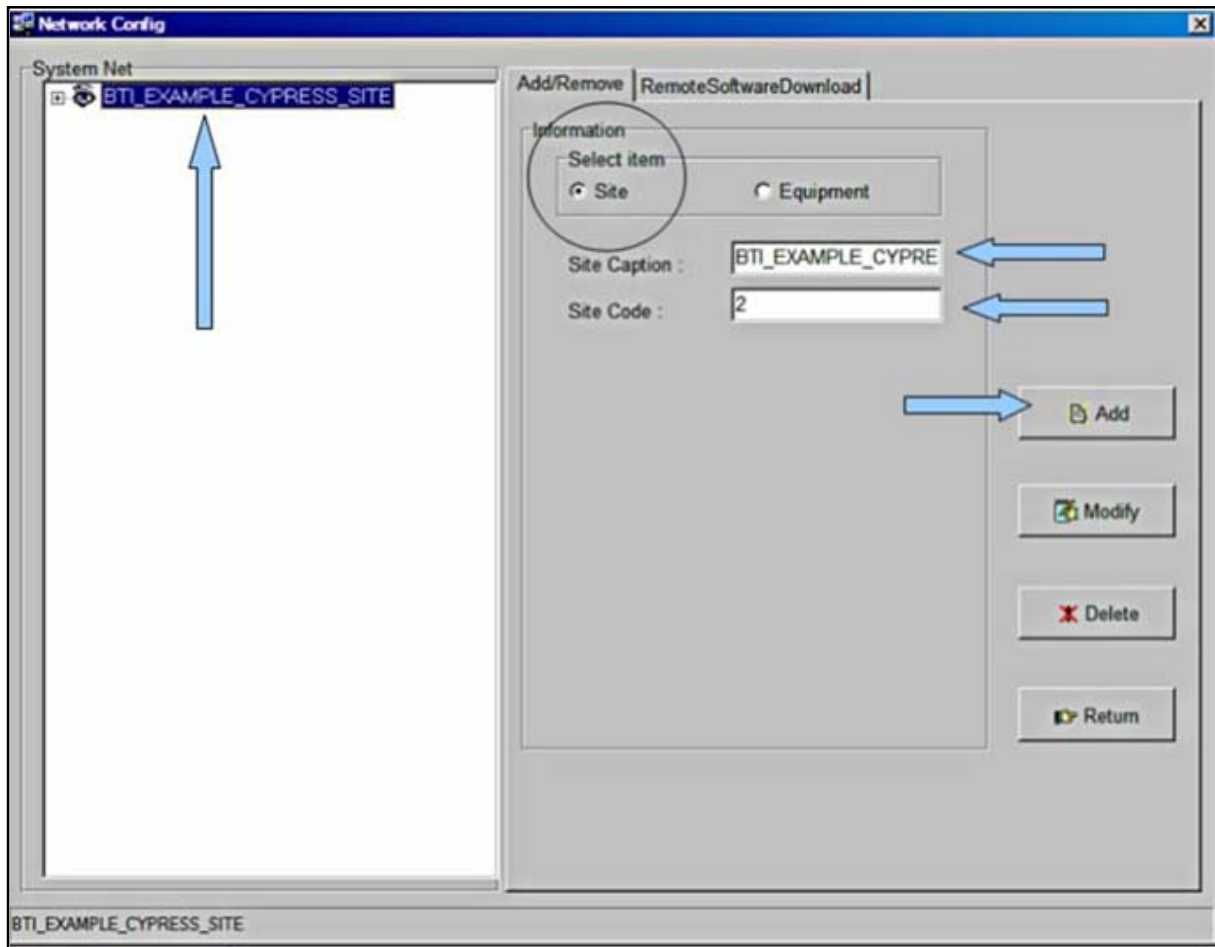

Figure 5-8 Adding a Site
3. Enter the Site name and the Site code. The example, BTI_Example_Cypress_Site is shown in **Figure 5-8**.